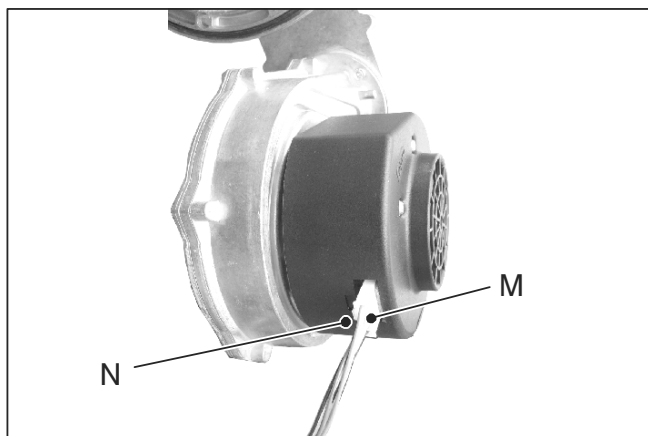

Fig. 8.7 (rear view of the fan)
- 9 Disconnect the connector of the fan M by pressing the plastic hook N placed on the rear side of the connector (Fig. 8.7).